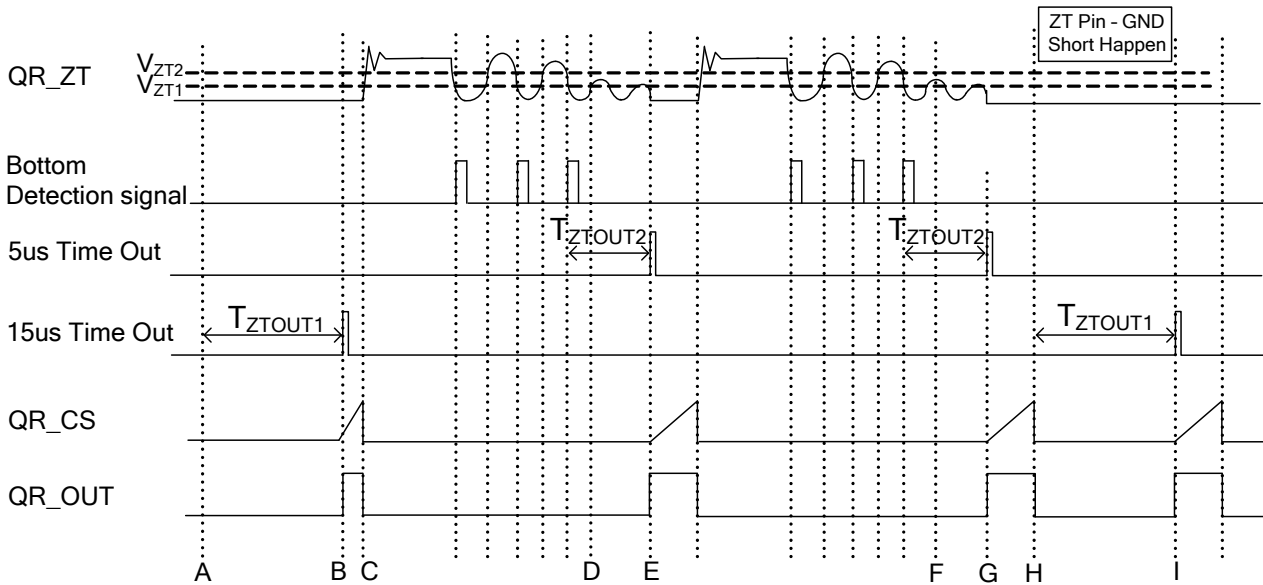

Figure 19. The Function of ZT Time Out.
**(6-6) ZT Timeout Function (Figure 19)**